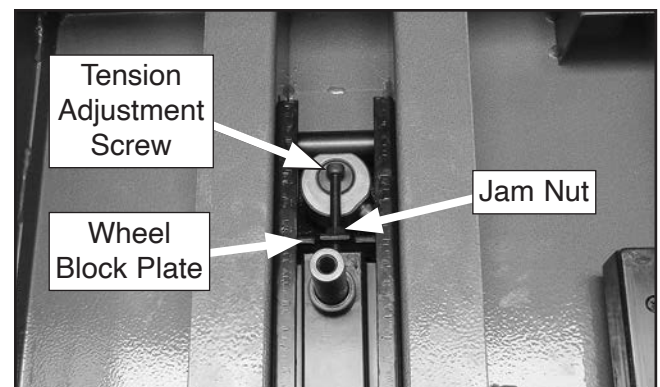

Figure 100. Location of tension adjustment screw, jam nut, and wheel block plate.
4. Loosen jam nut on tension adjustment screw, then loosen screw 7-10 turns (see **Figure 100**).
6. Tighten tension adjustment screw (see **Figure 100**) until it contacts wheel block plate, then back it off 1-2 turns.